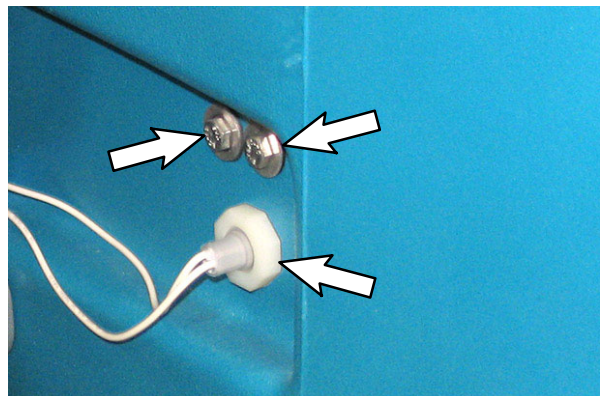
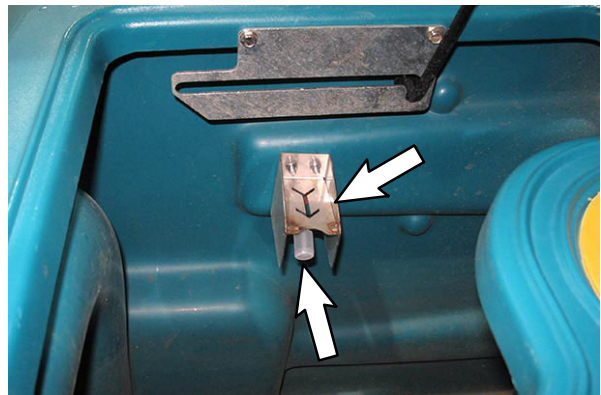

FIG. 3
FIG. 4
2. **M20 machines only:** Remove all hardware securing the existing float sensor/protector bracket to the recovery tank and remove the sensor and bracket from the recovery tank. Discard the float sensor, protector bracket, and all hardware. (Fig. 3/ Fig. 4)